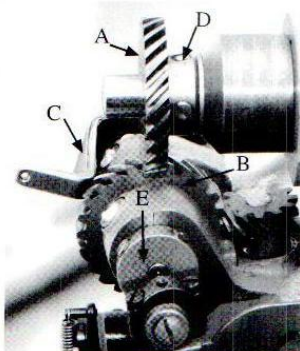
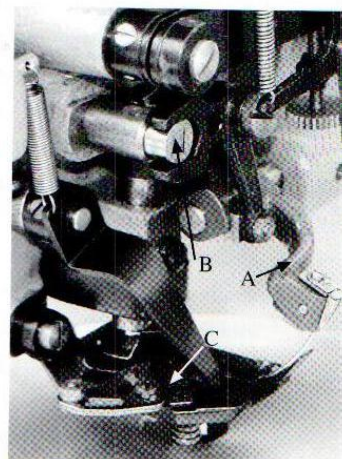

Fig. 2
Fig. 3
Remove head cover. With machine in stop position, remove gear (A, Fig. 2) from main shaft. Turn head main shaft gear (B) until the take-up lever (C) is at its highest point. Replace main shaft gear (A) with spot screw (D) in line with timing slot in main shaft. Tighten screws.
With machine in stop position, loosen screws in the needle drive crank (E, Fig. 2), and turn crank until needle carrier (A, Fig. 3) is at highest point of travel, and tighten screws in crank.
To check adjustment of needle height, turn the pulley in operating direction until screw (A, Fig.7) in looper driving gear(B) points to right of machine. At this point the needle point should be approximately 1/16 inch past the front edge of needle guide (C, Fig.3) on presser foot, and just contacting needle guide.